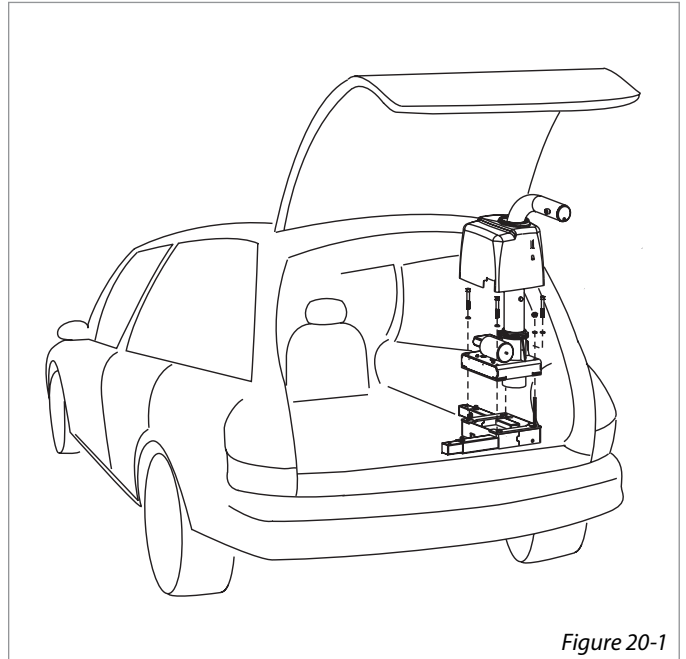

Figure 20-1
1. **Raise the plastic base cover when the base has been fastened to the vehicle floor, and attach the lift to the base as shown.** [Figure 20-1]